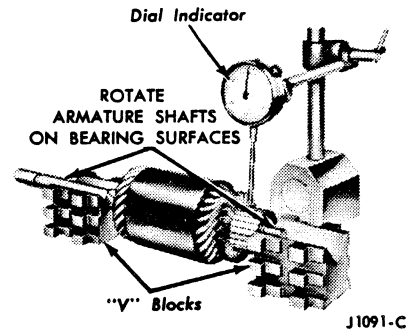

FIG. 10 Checking Commutator Runout
4. Check the commutator for runout (Figure 10). Inspect the armature shaft and the two bearings for scoring and excessive wear. If the commutator is rough, or more than 0.005 inch out-of-round, turn it down.